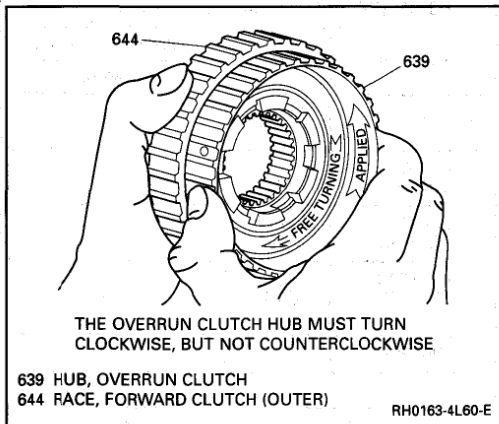

Figure 68 Sprag Operation Check
1. Forward clutch sprag assembly (642) into the outer race.
2. One sprag retainer ring (643) onto the race and retainer assembly.
5. Overrun clutch hub (639).
6. Overrun clutch hub retaining snap ring (638) into the snap ring groove of the race and retainer assembly.
7. Test the assembly for proper operation as shown (Figure 68).